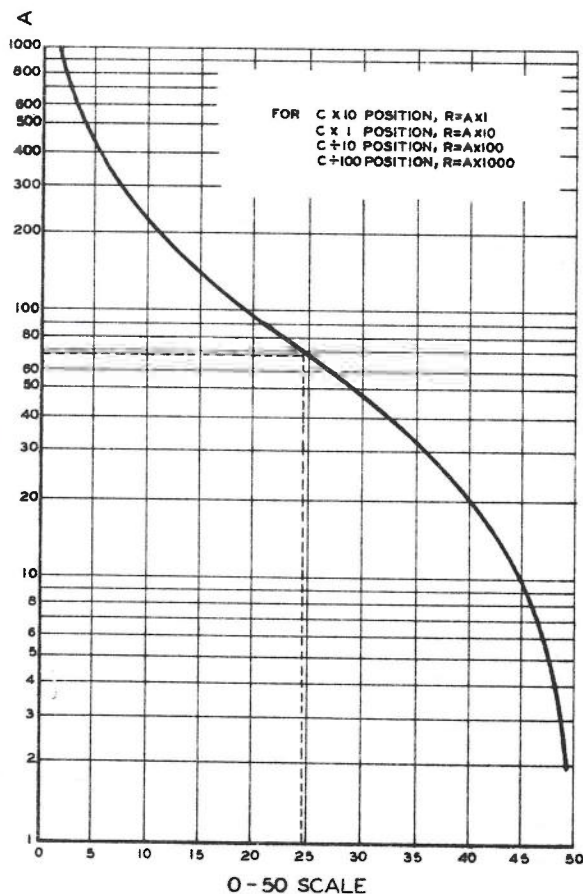

Figure 4-3. Resistance Curve for Capacity Meter Section
(1) **RESISTANCE.** - When measuring resistance connect the unknown resistor to the jacks of the Capacity Meter Section of the Tube Tester and set the **CIRCUIT SELECTOR** control at $C \times 10$, $C \times 1$, $C \div 10$, or $C \div 100$, whichever position gives a reading on the scale. Read the zero to 50 scale and refer to figure 4-3 to determine the resistance value.
Most power transformers and inter-stage audio coupling transformers have Q's on the order of 1 to 3 at audio frequencies. For a Q less than 1 measure the component as a resistor, using the resistance curves of figure 4-3.